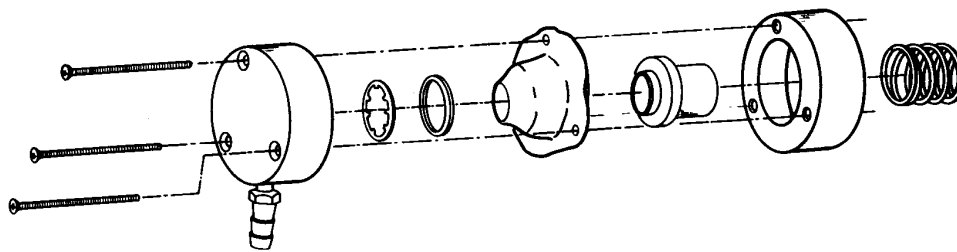

FIGURE 5.5 OXYGEN INPUT VALVE ASSEMBLY
1. Refer to Figure 5.5 and remove the three screws which hold the Input Valve to the Air-Intake Filter Cover.
2. Replace the Filter Cartridge (part no. 68 130 67) and reassemble the Oxygen Input Valve as shown in Figure 5.5.